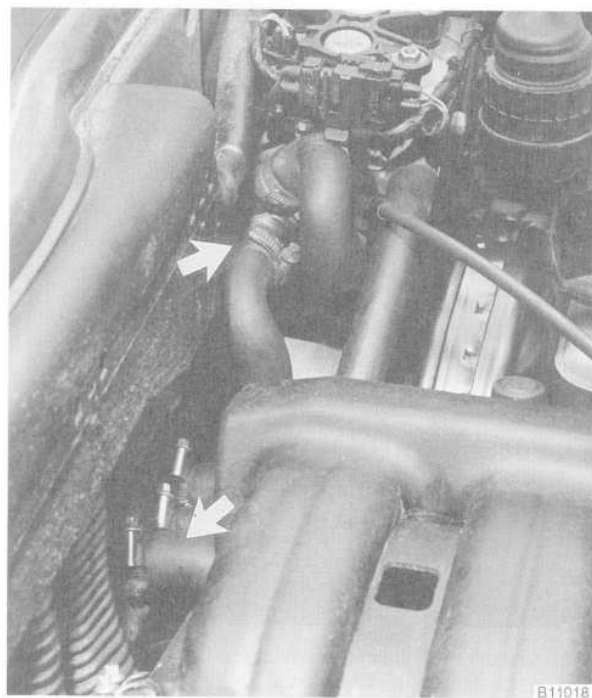

Fig. 12. Heater hoses at bulk head and heater valve (arrows) to be disconnected.
9. Disconnect the heater hose at the rear bulk head and at the heater valve. See Fig. 12.